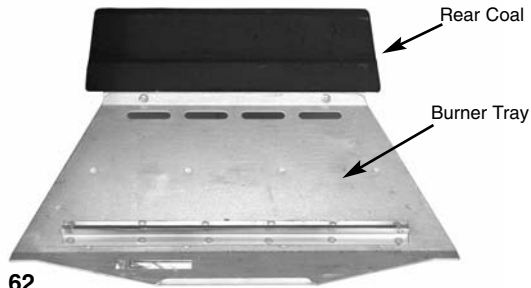

Fig. 62
1. Place the rear coal on the rear coal retainer ledge in a central position, ensuring the step portion is facing the front (Fig. 62).